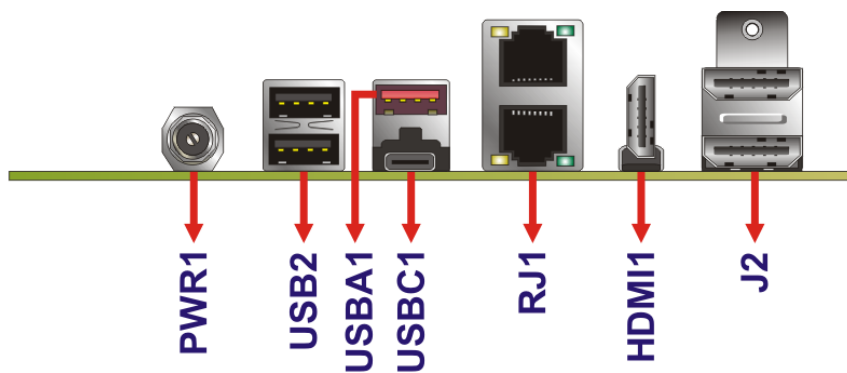

Figure 3-19: External Peripheral Interface Connector
Figure 3-19 shows the WAFER-RK3588 external peripheral interface connector (EPIC) panel. The EPIC panel consists of the following:
CN Location: See **Figure 3-19**
- CN Location:** See **Figure 3-19**